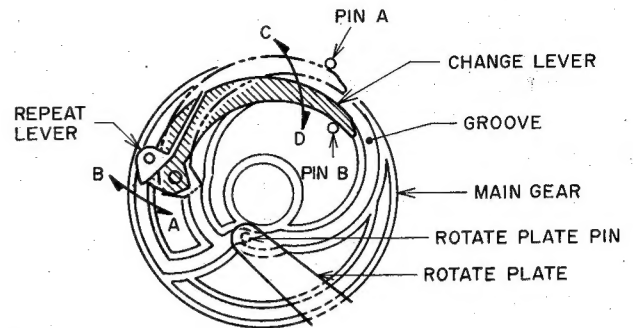

Fig. 5-3
- 3) As in Fig. 5-3, when on start, make sure that the repeat lever moves as far as possible in the direction